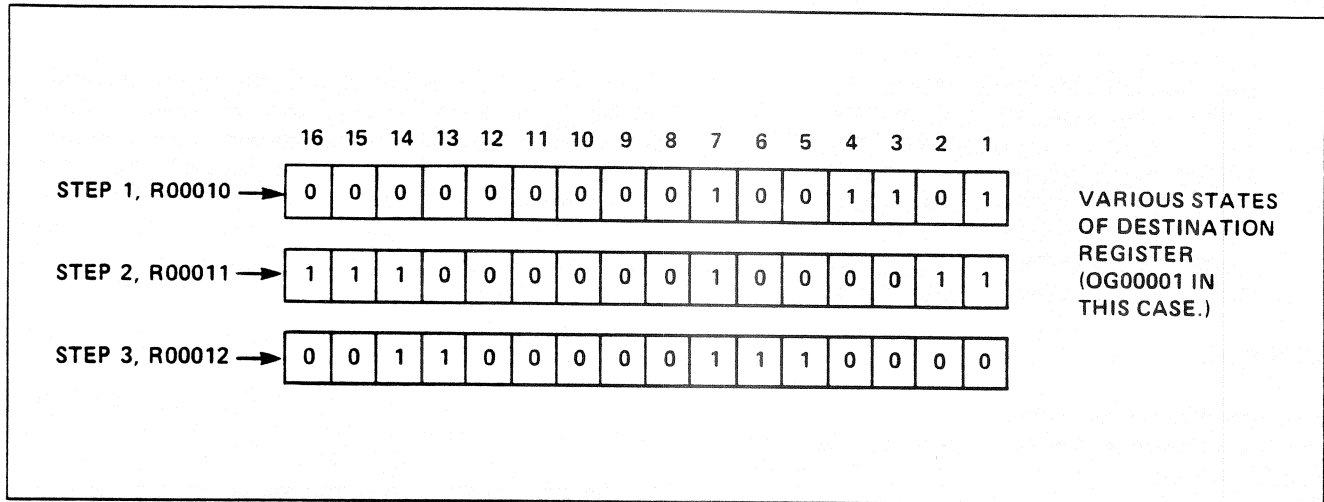

Figure DM-2. Drum Controller Function Operation
3. The Destination Register is the register used as the output of the Drum Controller function. (See Figure DM-2.) It contains the contents of the current Source Table Register. The register, specified as OG0001 in this example, contains the contents of the following holding registers: